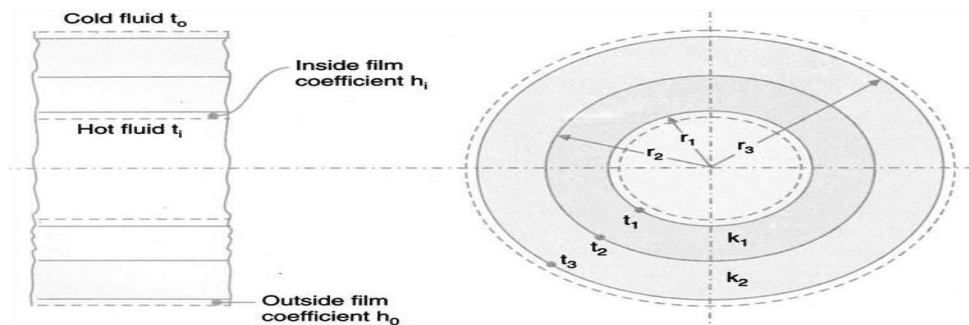

Fig. 2.12 Heat conduction through cylindrical wall with convection coefficient
- If the internal and external heat transfer coefficients for the composite cylinder as shown in figure 2.12 are h_i and h_o respectively, then the total thermal resistance to heat flow would be: